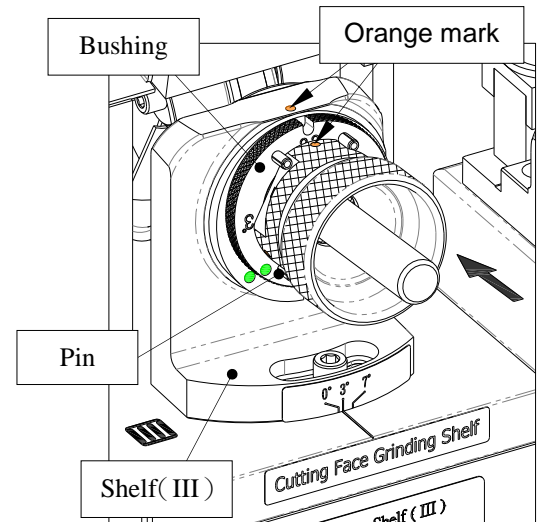

Fig. 17-3
3. 3 Flute Cutting Face Grinding Process (III) (Fig. 17-3)
- ① Insert the Chuck set into the bushing on Shelf (III) , align Slot No.1 of the Chuck set with the two pins where marked as No.1 (Align the Orange mark ● of the Chuck set with the Orange mark ● of the shelf), gently push the Chuck set into the shelf until the grinding noise stops, then take out the Chuck set.
- ② Take out the bushing; turn it by 180° to No.(2 · 3), align No.(2 · 3) of the bushing with the Pin on the shelf, then insert the bushing into the shelf.
- ③ Insert the Chuck set into the bushing on Shelf (III) , align Slot No.2 of the Chuck set with the two pins where marked as No.(2 · 3) (Align the Orange mark ● of the Chuck set with the Orange mark ● of the shelf), gently push the Chuck set into the shelf until the grinding noise stops.
- ④ Take out the Chuck set; turn it to Slot No.3, align Slot No.3 of the Chuck set with the two pins on the bushing where marked as No.(2 · 3) (Align the Orange mark ● of the Chuck set with the Orange mark ● of the shelf), gently push the Chuck set into the shelf until the grinding noise stops.